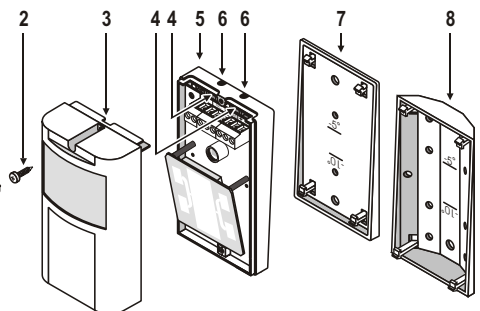

Fig. 2 Detector components
- INSTALLATION (Fig. 2)** The Detector can be: